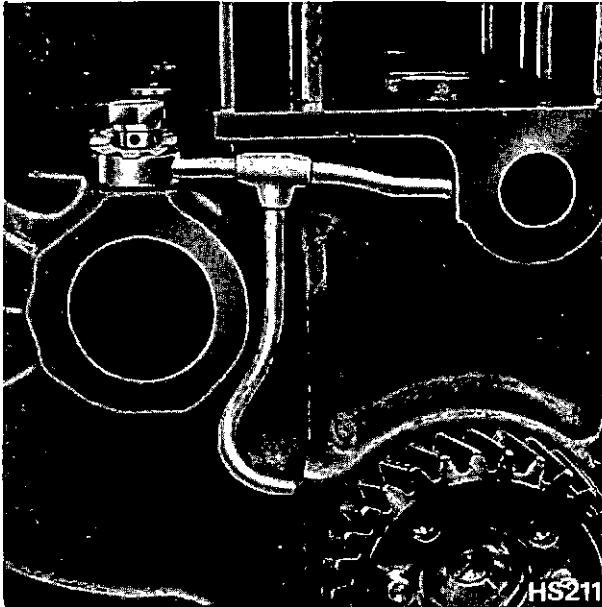

Fig. 59 Oil Pipe to Camshaft Bush
- (i) Remove lubricating oil supply pipe plug—with tab washer—from camshaft locating bush (Fig. 59).